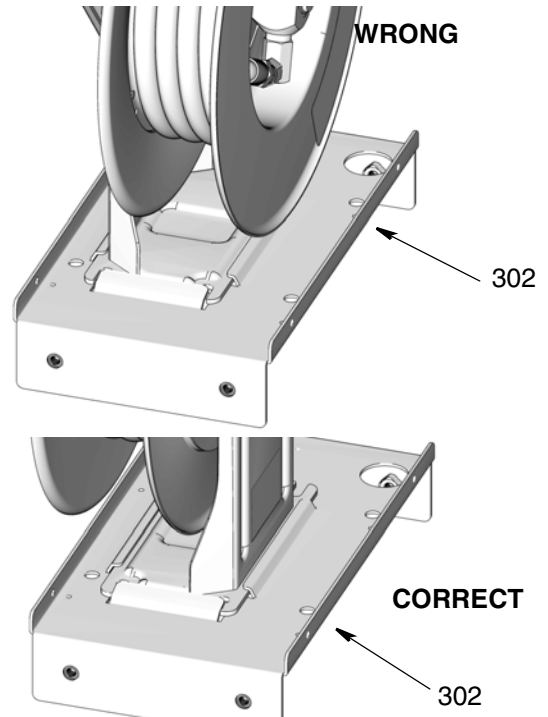

FIG. 1: SD Reels Only
1. Use the mounting channel (103) to lay out the position of the mounting holes before you drill.
NOTE: (SD reels only) Although the hose reel can be installed on the reel base (302) with the guide arm positioned on the left or the right side, there is only one correct installation position. When the hose reel is correctly installed in the reel base, the reel will be centered over the reel base. See FIG. 1 to verify you have installed the hose reel in the reel base correctly.
3. Position hose reel on base (302), verifying reel is correctly centered on base as shown in FIG. 1.